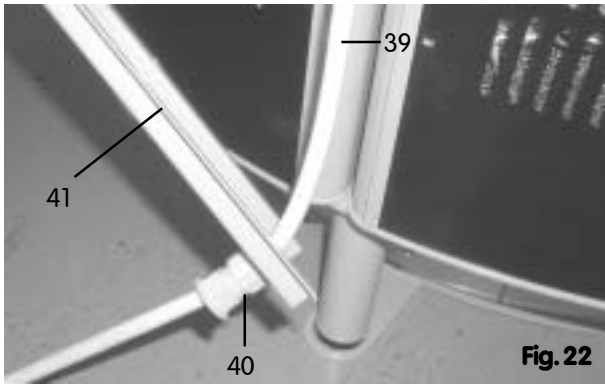

Fig. 22
Then fit the cable tension-relief device (40) (from the accessory pack) to the cable (Fig. 22).